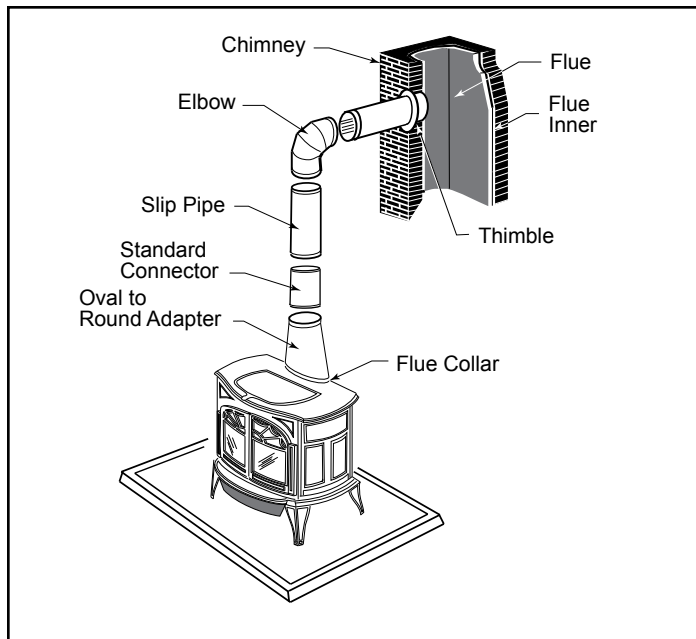

Fig. 6 - An exploded view of the chimney connection in a freestanding masonry installation.
- Fasten the chimney connector to the chimney. Instructions for various installations follow. Figure 6 illustrates the general layout of chimney connector parts.